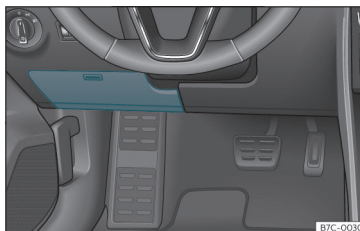

Fig. 88 Vehicles with the steering wheel on the left: fuse box cover under the driver-side dash panel
- **Open:** fold the cover down >>> **Fig. 88.**